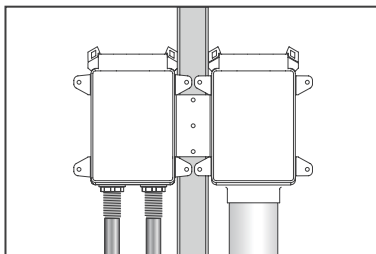

FIGURE 3
- Each outlet box shall be installed in a separate stud bay and attached to the stud (Figure 3 & 4). Fire rating does not apply to installations of two or more boxes in the same stud bay.